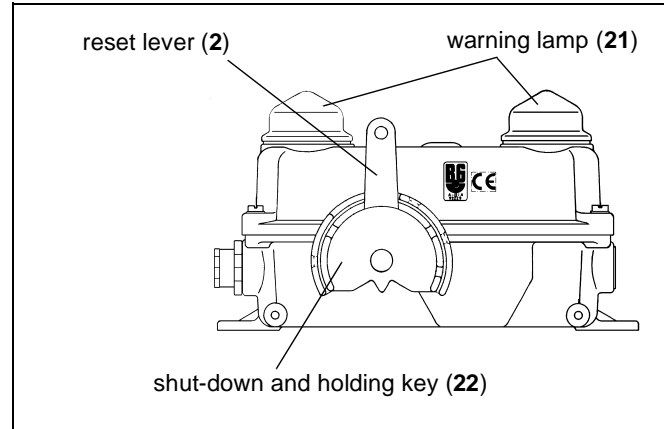

Fig. 3-3: Pull rope switch with shut-down and holding key
When the release lever (1) is operated, the switch cylinder (20) moves to the power off position and the release lever (1) is uncoupled. Switching is now no longer possible. If the pull rope switch used is fitted with a warning lamp (21) this will indicate the emergency off status (s. fig. 3-3).
SEM type pull rope switches are available with shut-down and holding key (22) (s. fig. 3-3). With this the reset lever (2) can be secured with a maximum of three padlocks for work on the conveyor system.